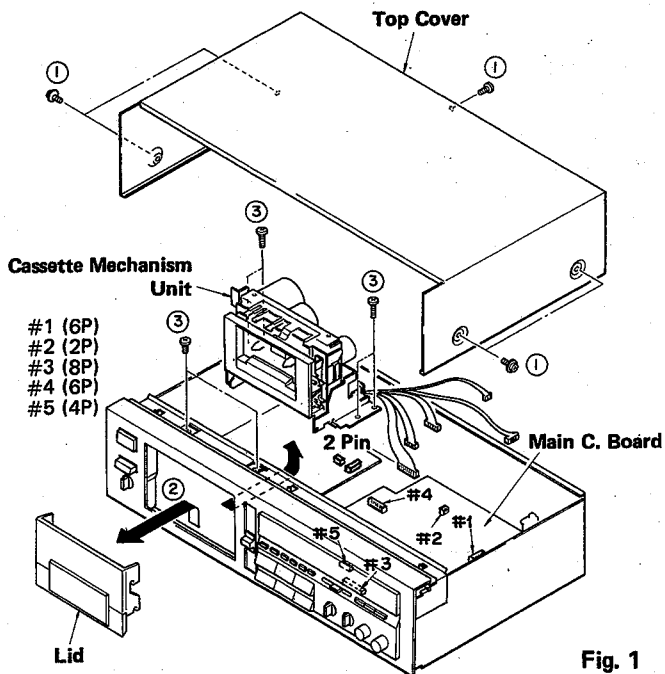

Fig. 1
- Remove 5 screws (①) in Fig. 1.
- Remove the Lid (②) in Fig. 1.
- Detach 5 connectors (#1 ~ #5) in Fig. 1.
- Detach 1 connector (2 pin) Power Transformer Unit in Fig. 1.
- Remove 6 screws (③) in Fig. 1 and then pull off the mechanism unit to the back side gently.